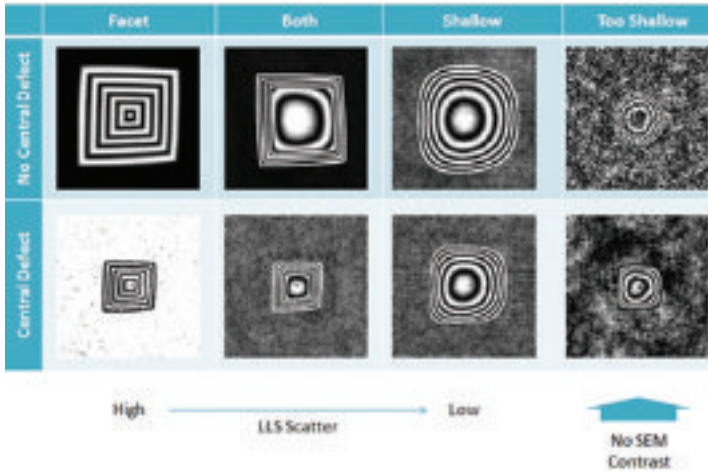
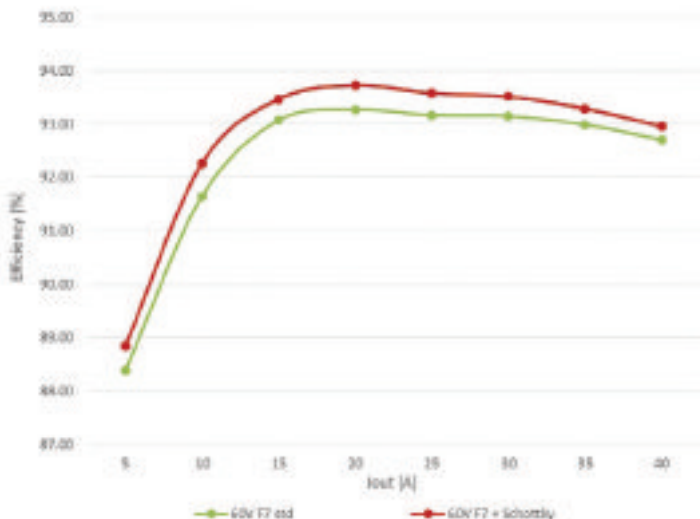

FIGURE 5. Defect classification based on the LLS, SEM and AFM data.
FIGURE 6. Efficiency in LLC converter.
are exposed at an intermediate point in the decorative etch and have some degree of faceted walls with curved bottom. This category is classified as “Both”. Defects which have only started to be decorated have a very weak LLS signal and are classified as “Too shallow”. The defects are also categorized whether or not they have the center defect, hence, a total of eight defect types were identified. The defect classification is tabulated in **FIGURE 5**.
As we go from left to right side of the table in figure 5, the LLS signal become weaker. This was attributed to the depth of defects and the sharpness of the defect’s edges. AFM images confirmed the depth difference between different classes of defects. Since the AFM images contain Z heights, we were able to use a banded color scale to depict the surface topography of the defects more accurately in 2D view.
FIGURE 6 depicts a comparison between the data collected with SEM vs. AFM for the same defect. Primary SEM image provides an aerial 2D view of the defect. However, the shallow depth of the defect reaches the limitations of SEM, hence, poor contrast in the image. As indicated in Fig. 5, shallower defects were not found by SEM. A secondary electron image helps identify the center defect. Identification of center defect by secondary electron is possible only if the defect was found in primary SEM image.
On the other hand, AFM image not only provides an aerial view of the defect, it also contains the height/depth values for each pixel. Therefore, more information can be obtained about the true topology of the defect by using a 3D representation of the AFM image or using a contoured color scale. Contoured color scales can also help understanding the topology of the defect in aerial view as shown in figure 5. As indicated before, AFM has the highest vertical resolution
FIGURE 6. Comparison between the data collected with SEM versus AFM. SEM image provides an aerial 2D view of the defect. Secondary electron image indicates the presence of center defect. AFM image, in addition to aerial 2D view, includes the 3D data. Therefore a line profile, 3D demonstration, and contoured color scale can be utilized to obtain more information.
diode losses (as reported in (1) and (2)) and to minimize possible voltage spikes during turn-off transient. The 60V standard MOSFET and one with Schottky integrated devices are compared in a 500W digital power supply, formed by two power stages: power factor corrector and an LLC with synchronous rectification. The maximum output current is 42 A, while the switching frequency at full load is 80 kHz, and the dead time is 1 μ s. The efficiency curves are compared in **FIGURE 6**.